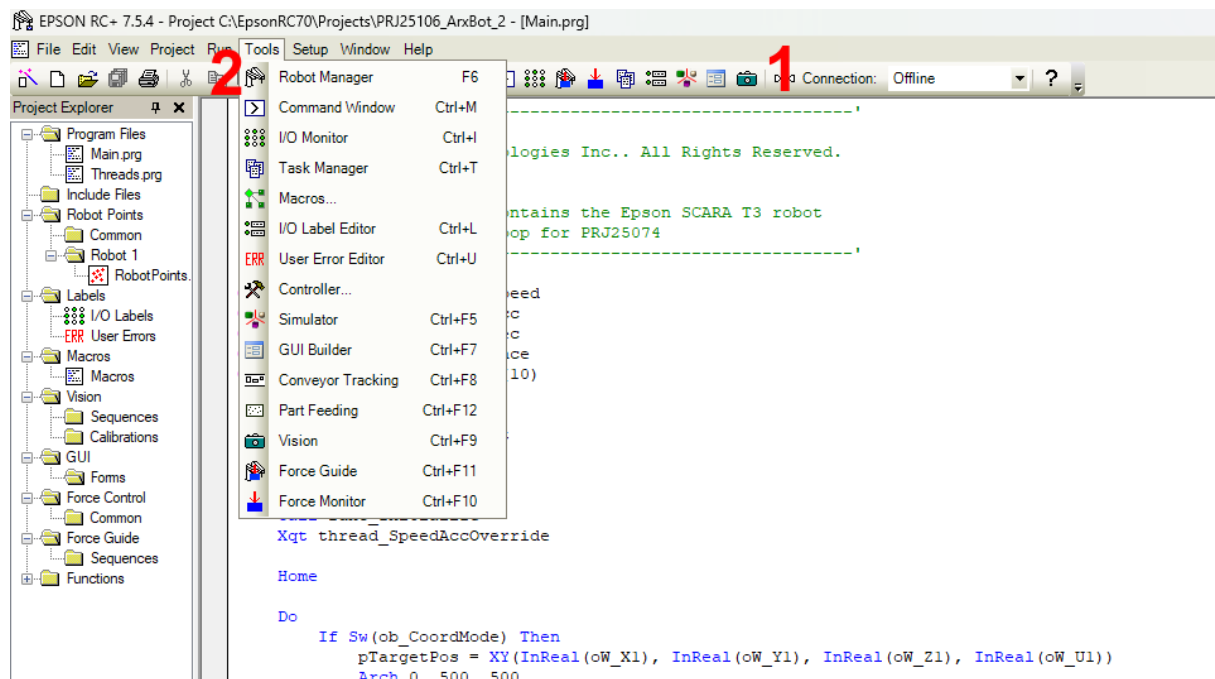

Figure 2.5 Epson RC+ Interface
4. Connect to the robot: First, ensure that your PC is physically connected to the robot, either via USB or Ethernet. Next, navigate to the **Connection** dropdown in RC+ (**Figure 2.5, Element 1**) and connect via the chosen method. Note that this will disable any robot position control from the HMI/PLC.
5. Tune the nest positions: In RC+, navigate to **Tools > Robot Manager > Control Panel** (**Figure 2.5, Element 2**), and select **Free All** to unlock all joint movement. The robot can then manually be moved into the desired position. Once in place, navigate to **Tools > Robot Manager > Jog & Teach**, and under the **Teach Points** tab, select the desired point to write the current position to. Press **Teach** to write to the point. Note that the jogging controls in **Jog & Teach** can be used in the tuning process if desired; the joints must first be locked via **Tools > Robot Manager > Lock All**.